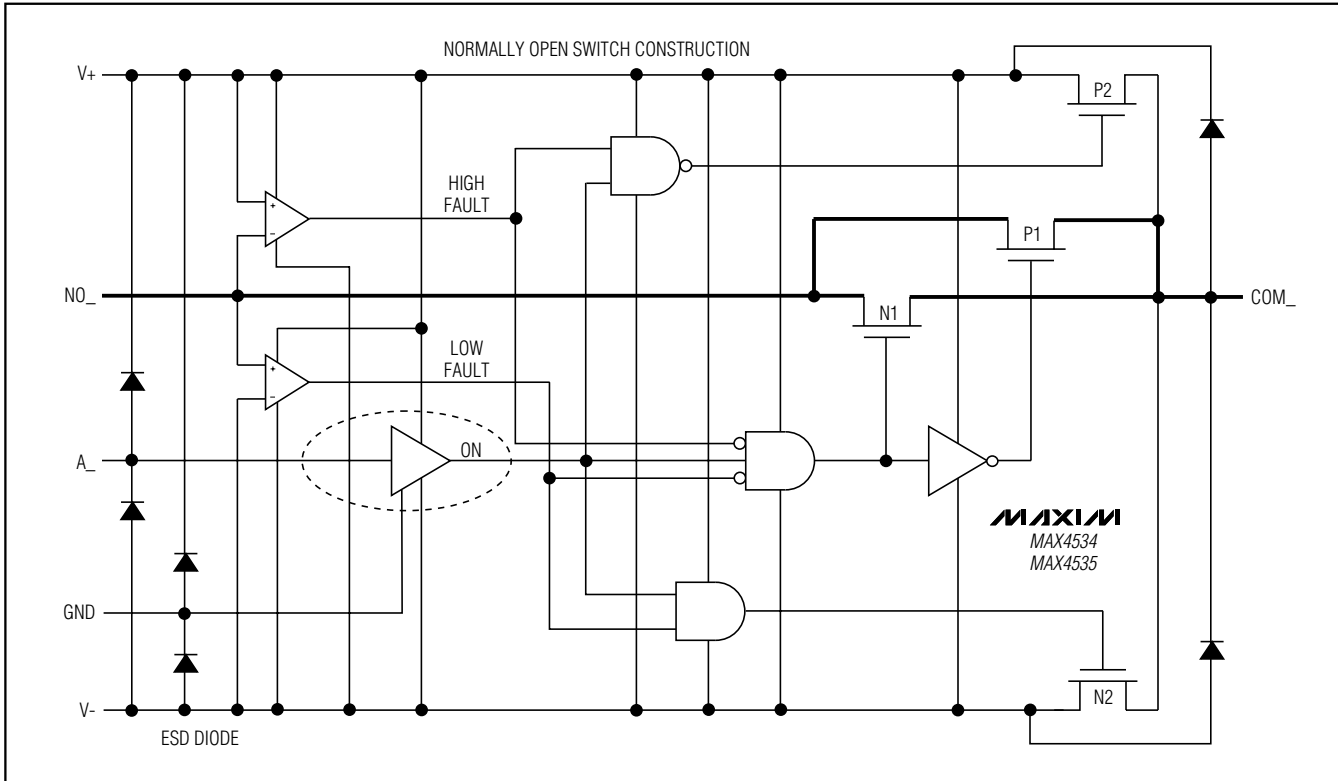

Figure 1. Functional Diagram
Figure 1 shows the internal construction, with the analog signal paths shown in bold. A single, normally open (NO) switch is shown. The analog switch is formed by the parallel combination of N-channel FET N1 and P-channel FET P1, which are driven on and off simultaneously, according to the input fault condition and the logic level state.
off in response to A- signals (Figure 1). The parallel combination of N1 and P1 forms a low-value resistor between NO- and COM- so that signals pass equally well in either direction.
When the signal on NO- exceeds V+ by about 150mV, the positive fault comparator output goes high, turning off FETs N1 and P1 (Figure 1). This makes the NO- pin high impedance regardless of the switch state. If the switch state is "off," all FETs turn off, and both NO- and COM- are high impedance. If the switch state is "on," FET P2 turns on, clamping COM- to V+.
When the signal on NO- goes about 150mV below V-, the negative fault comparator output goes high, turning off FETs N1 and P1 (Figure 1). This makes the NO- pin high impedance regardless of the switch state. If the switch state is "off," all FETs turn off, and both NO- and COM- are high impedance. If the switch state is "on," FET N2 turns on, clamping COM- to V-.
FETs N2 and P2 can source about ±10mA from V+ or V- to the COM- pin in the fault condition (Figure 1). Ensure that if the COM- pin is connected to a low - impedance load, the 30mA absolute maximum current rating is never exceeded, both in normal and fault conditions.